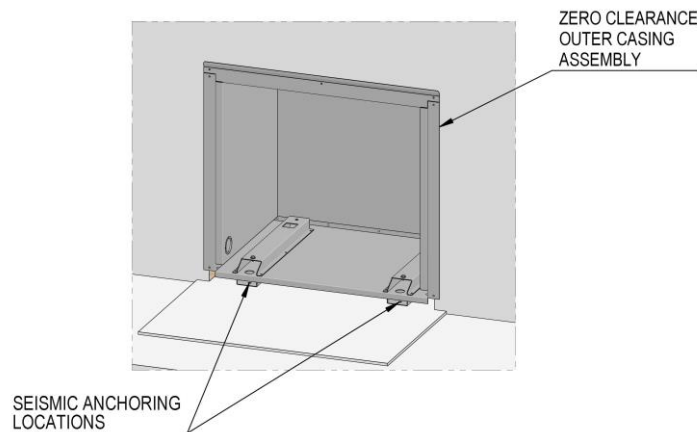

Fig. 9
- C1.** Built-in (ZC) installations: Floor protector (Promina/Bellis Board or similar non-combustible material) must be installed so that its leading edge is a minimum of 500mm in front of the appliance base [with fascia attached]. **The floor protector must be a minimum of 860mm wide x 1090mm deep x 9mm thick.**
- D1.** Heater must be restrained from seismic movement (Fig. 9) as required by AS/NZS 2918:2001
03. Ensure the unit is securely fixed using sleeve anchors or similar at the locations shown in the images on this page. (Fig. 9)